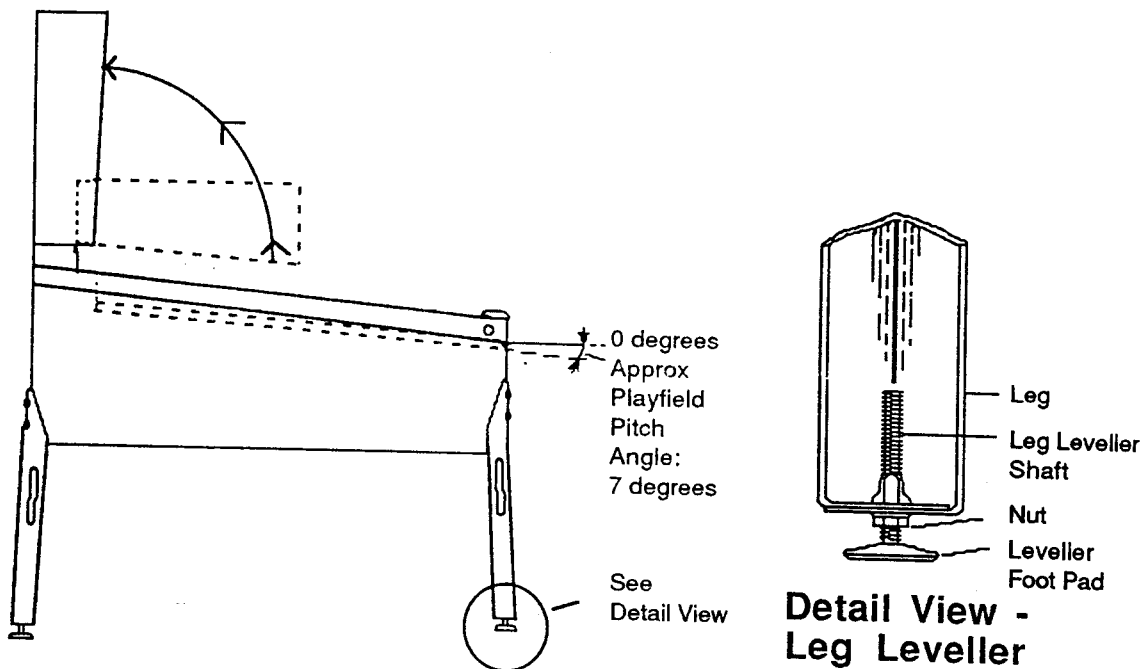

Figure 3. Pinball Assembly, Playfield Pitch Angle, and Leg Leveler Details.
3. Attach the front legs (after installing leg levellers), using leg bolts. See Figure 3 for details.
7. Adjust the leg levellers for proper playfield level (side-to-side) and playfield pitch angle (incline) of approximately 7 degrees. (Again, it is recommended that these measurements be made ON the playfield, not the cabinet nor the playfield cover glass.) Tighten the nut on each leg leveller shaft to maintain this setting, as shown in Figure 3.